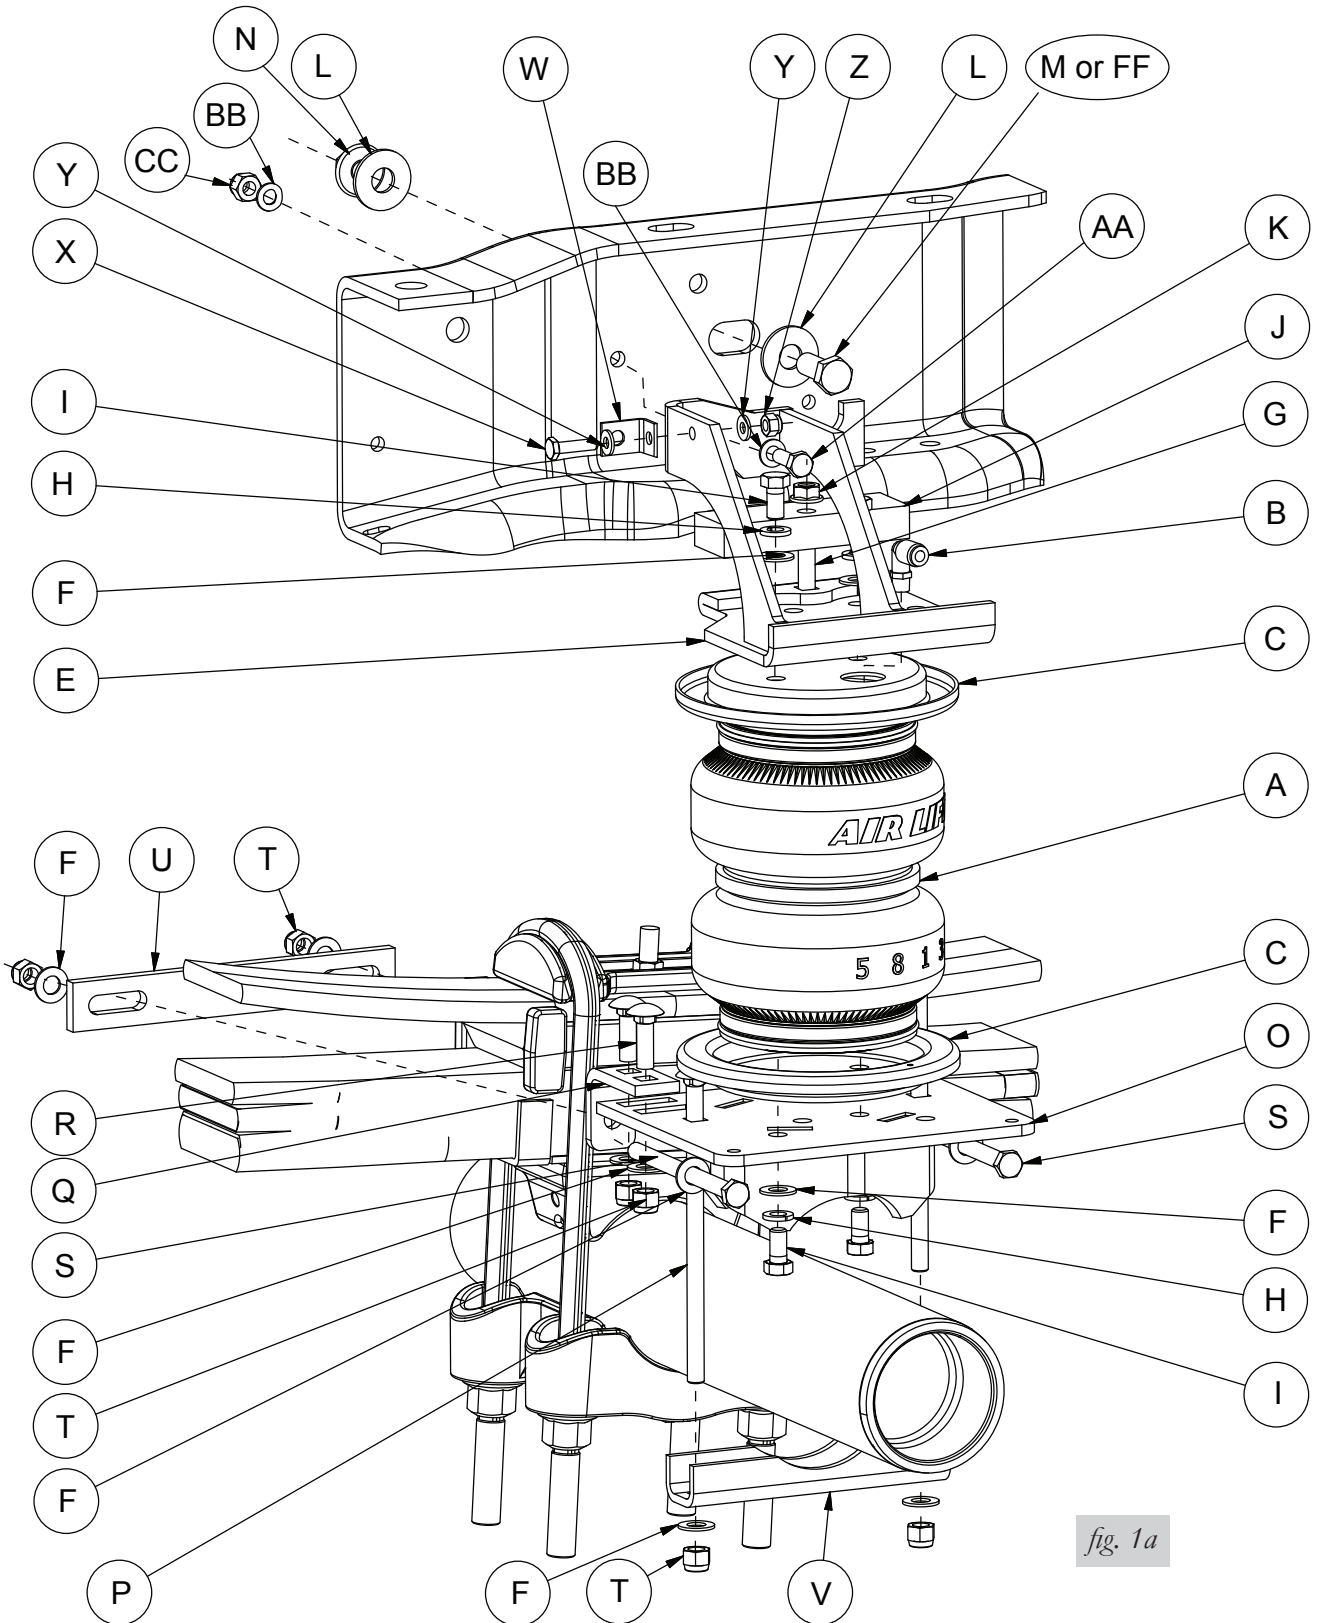
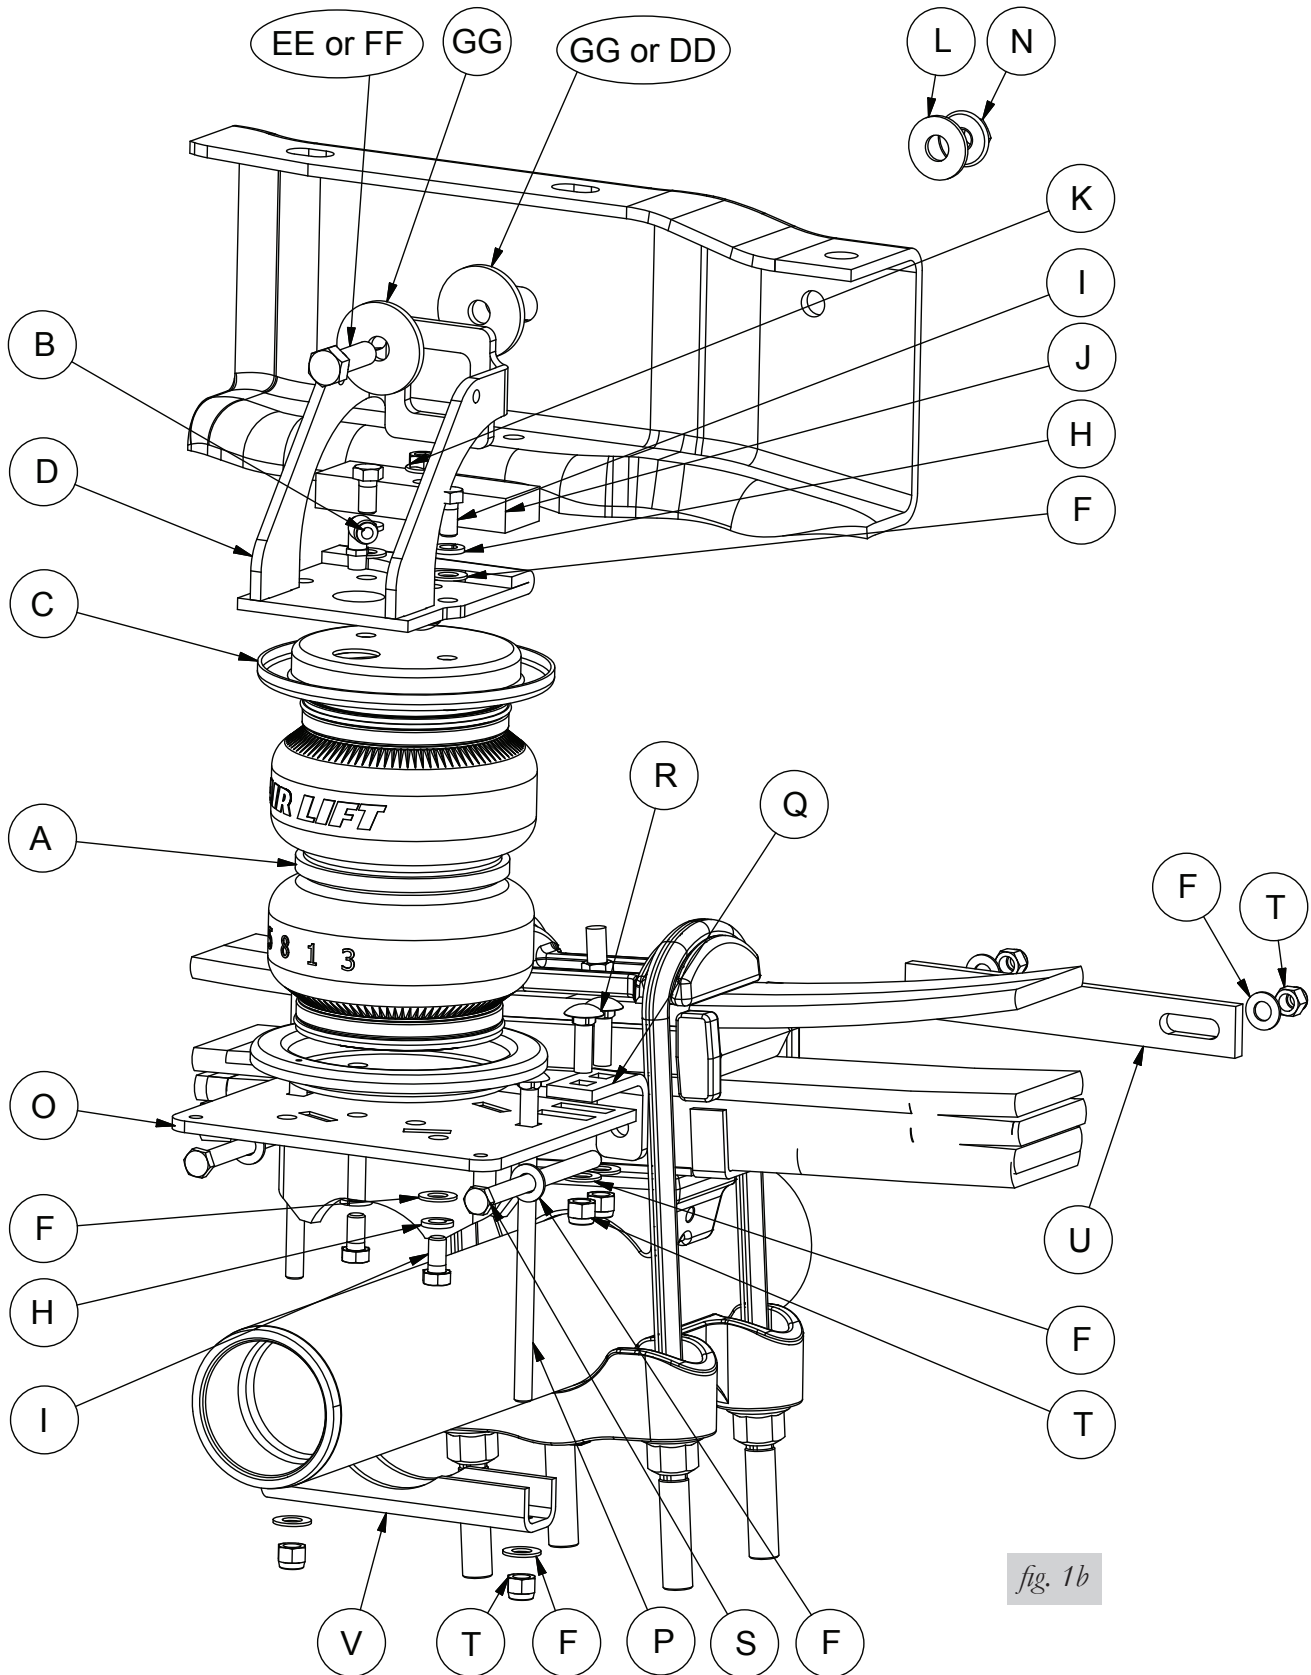

fig. 1a
fig. 1b
1. Set a roll plate (C) over the top and bottom of the bellows (A) (fig. 1a or 1b).
The radiused (rounded) edge of the roll plate (C) will be towards the bellows so that the bellows is seated inside both roll plates (fig. 1a or 1b).
The insert for the fitting on top of the bellows points inward (refer to fig. 1a or fig. 1b).